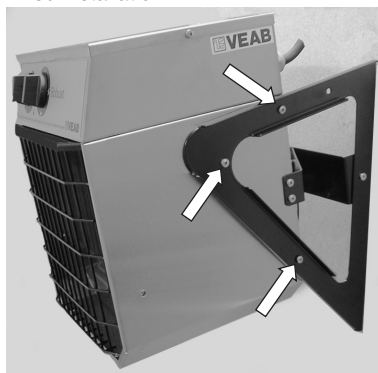

Fig 2
2. Then undo screws in the bracket on the side of the heater, see fig 2.